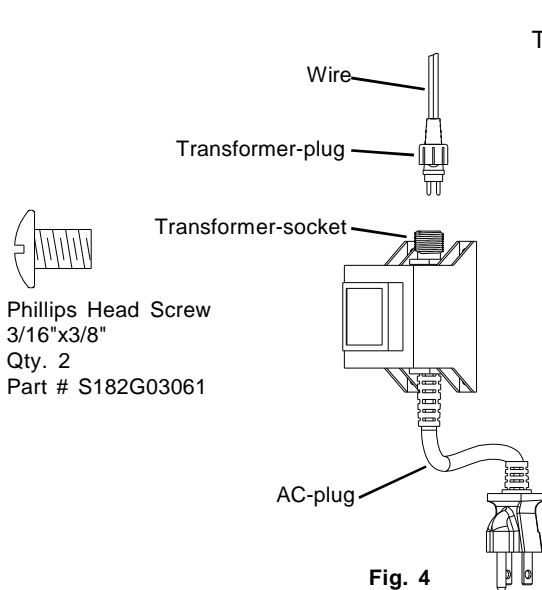

Fig. 4
- Insert Transformer-Plug into Transformer-Socket and tighten securely. (see Fig. 4).